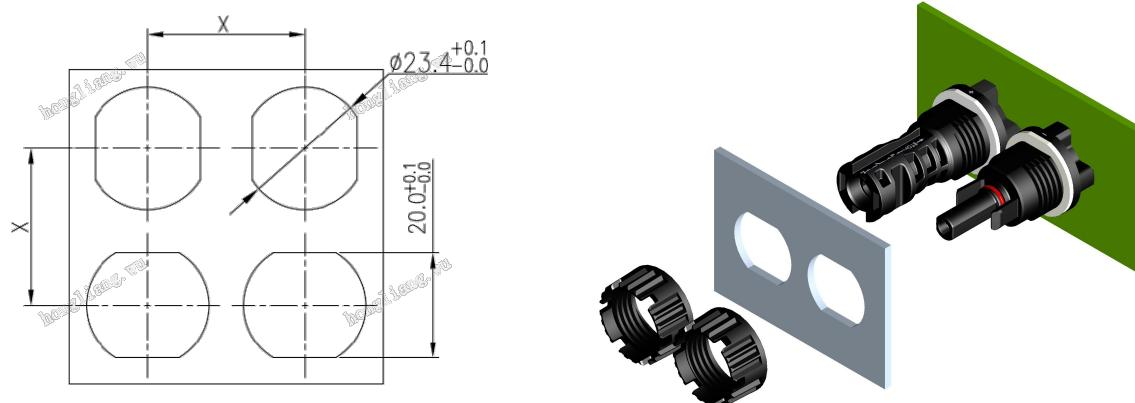

Figure 2
- ✧ 面板钻孔。钻孔的建议尺寸如图 2，所有钻孔边缘的毛刺需要清除。我们建议，无论水平或垂直结构，间距值 (X) 至少要有 30mm。
Drill the panel wall. Recommended bore dimension see fig.2, all burrs must be removed from the edges of all bores. For both horizontal and vertical mounting, a spacing (X) of at least 30mm is recommended.
- ✧ 在公/母面板连接器插入钻孔前，请确保已安装防水垫圈，且防水垫圈安装在墙板的外侧(如图 2)。
Please ensure seal gasket is located and positioned outside of the mounting surface before the male or female panel connector inserts the drilled hole (Fig.2).